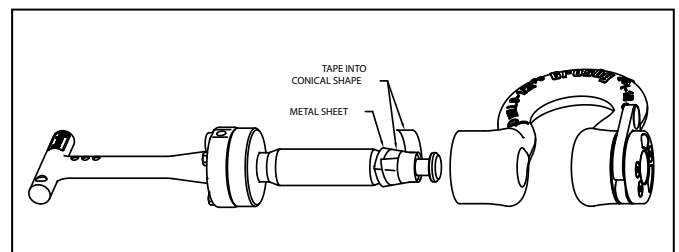

Figure 4
6. Wrap the metal strip around the threads, thread relief, partially overlapping into the lock groove. For best results, angle the wrap so the metal strip forms a slight cone from the lock groove. (See Figure 4)
2. Wrap the metal strip around the collar and body pilot, but offset from the lock groove. For best results, angle the wrap so the metal strip forms a cone from the body pilot. (See Figure 4)